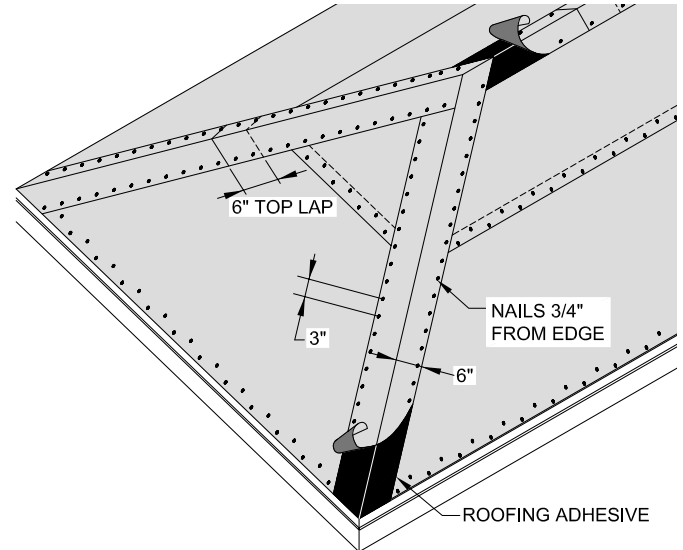

Figure 4 - Hips and Ridges: Exposed Fastener Installation
- i. Continue until the end of the hip or ridge is reached. (See Figure 4)